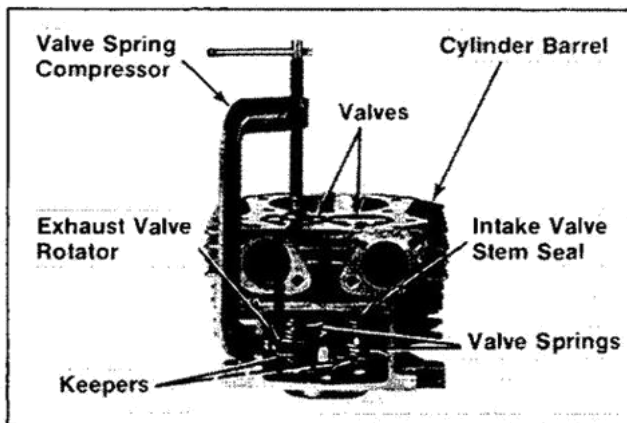

Figure 9-30. Removing Valves.
2. Compress the valve springs with a valve spring compressor and remove keepers. Refer to Figure 9-30.